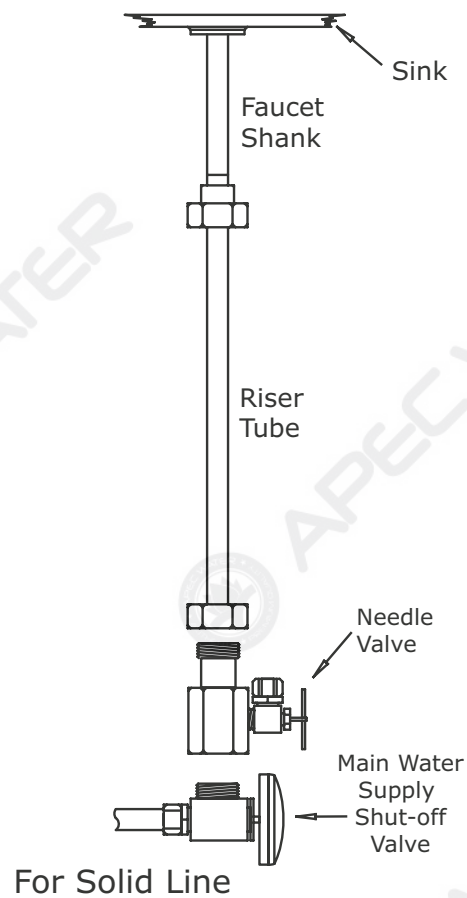

Fig. 5B
**For Solid Copper Riser:** See **Fig. 5B.** Follow the same procedure as for flex line. If the copper riser cannot bend, this it's best to replace it with a flex line riser. Fit the feed water adaptor to the shut off valve the same way as described above.